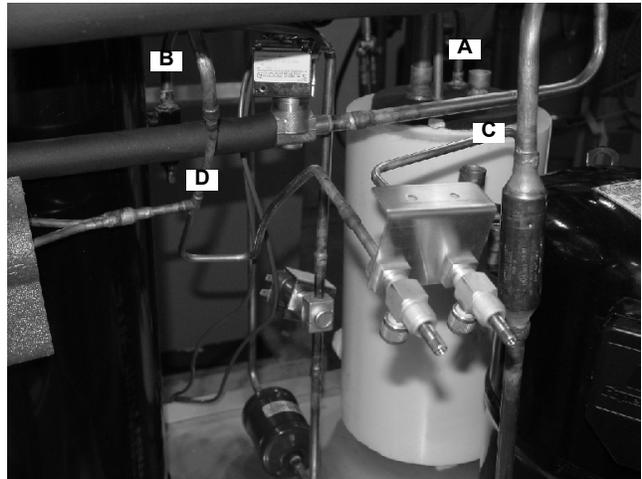

Figure 30.
Connect the valve side of the assembly to the liquid (A) inlet on the accumulator. Connect the filter side to the service port valve (B) on the receiver (Figure 30).
34. Place the Service Valve Assembly in the unit. Connect the low side pressure tube to the compressor service port (C). Connect the high side pressure tube to the Heat Exchanger Suction Line just prior to the expansion valves (D) (Figure 30).